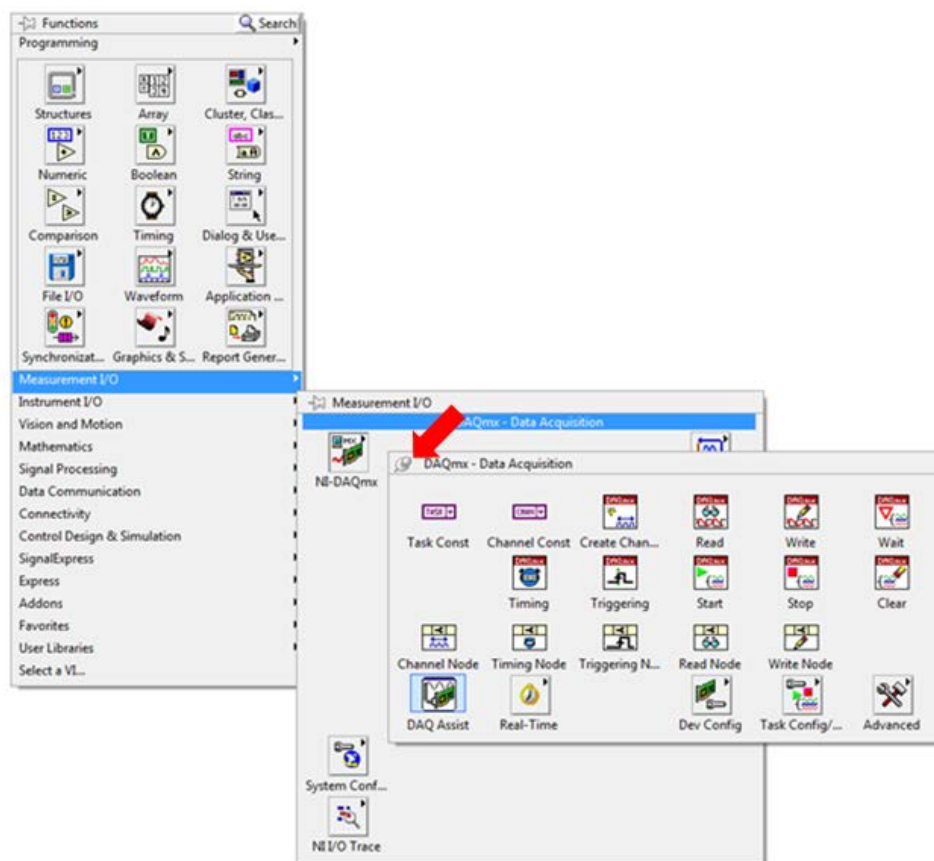

Figure 22. The DAQmx palette includes all the required VIs for communicating with your NI CompactDAQ chassis.
2. For this exercise, a large part of the coding will come from the DAQmx palette. To access this palette right click on any white space on the Block Diagram and navigate to **Measurement I/O » NI-DAQmx**, like in Figure 22.
3. Click on the pin to keep this palette visible (red arrow in Figure 22).